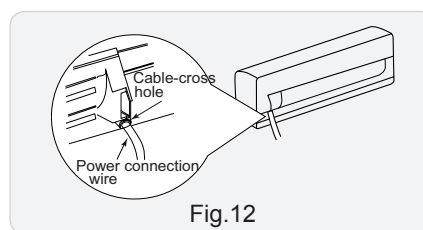

Fig.12
(2) Make the power connection wire go through the cable-cross hole at the back of indoor unit and then pull it out from the front side. (As show in Fig.12)